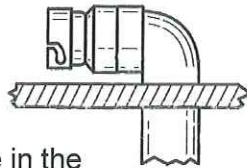

FIGURE 1
3. Reaching through the cut hole, connect and lock the expandable hose to the previously installed quick-release fitting. To do so, align the locking mechanisms, push in to connect and twist to securely lock (Figure 1). **DO NOT GLUE** – the O-Ring ensures a tight seal.